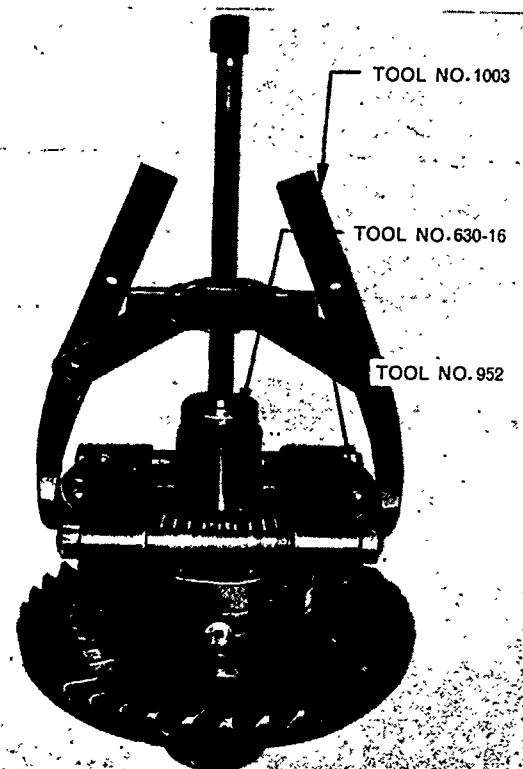

Figure 18
6. If it is necessary to remove the right-hand cone and roller assembly on tractors fitted with a differential lock, Tool Nos. 952, 1003, 630-16 will be suitable, Figure 18. The left-hand cone and roller assembly on all tractors and the right-hand cone and roller assembly on tractors without differential lock may be removed using 952, 1003, 630-10. Removal is similar to that
shown in Figure 18.